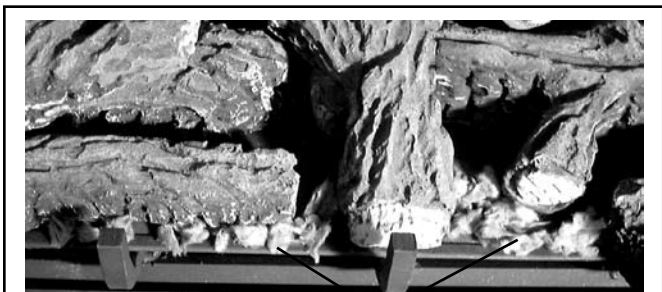

Figure 37
7. Place the glowing embers on the burner as shown in **Figure 37**.
IMPORTANT: The quantity and placement of the ember material can affect insert performance, therefore, it is very important that it be placed as shown in Figure 37.
- b. Distribute the pieces over the top of the front burner area in front of the forward logs (see **Figure 37**).